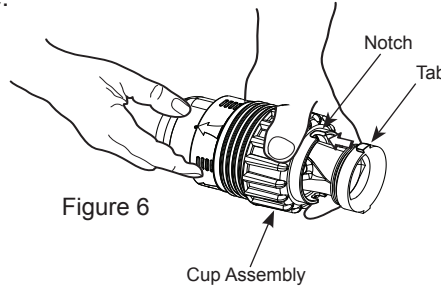

Figure 6
2. Insert inner pipe and diaphragm into cup assembly. Align diaphragm tabs with notches and pull straight through (do not twist) until the edge of the diaphragm is visible (see Figures 6 and 7).